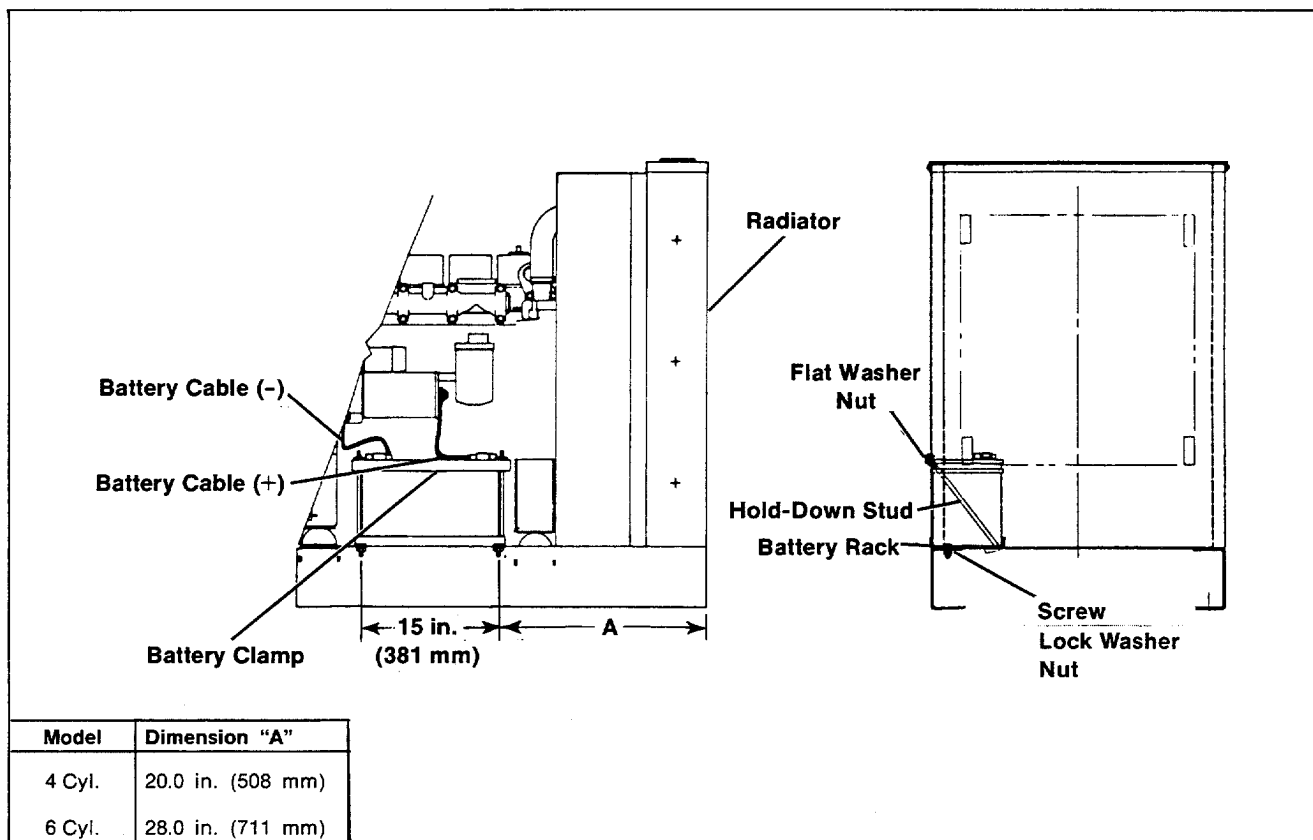

Figure 1. Mounting Battery Rack
2. Measure distance from radiator end as shown in Figure 1.